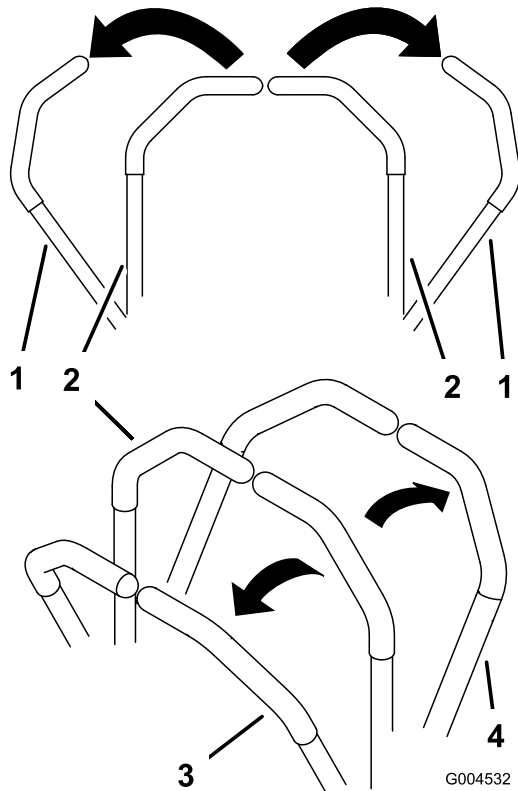

Figure 15
2. To go forward, slowly push the motion control levers forward (Figure 15).
To go straight, apply equal pressure to both motion control levers (Figure 15).
To turn, release pressure on the motion control lever toward the direction you want to turn (Figure 15).
2. To go backward, slowly pull the motion control levers rearward (Figure 15).
To turn, release the pressure on the motion control lever toward the direction you want to turn (Figure 15).